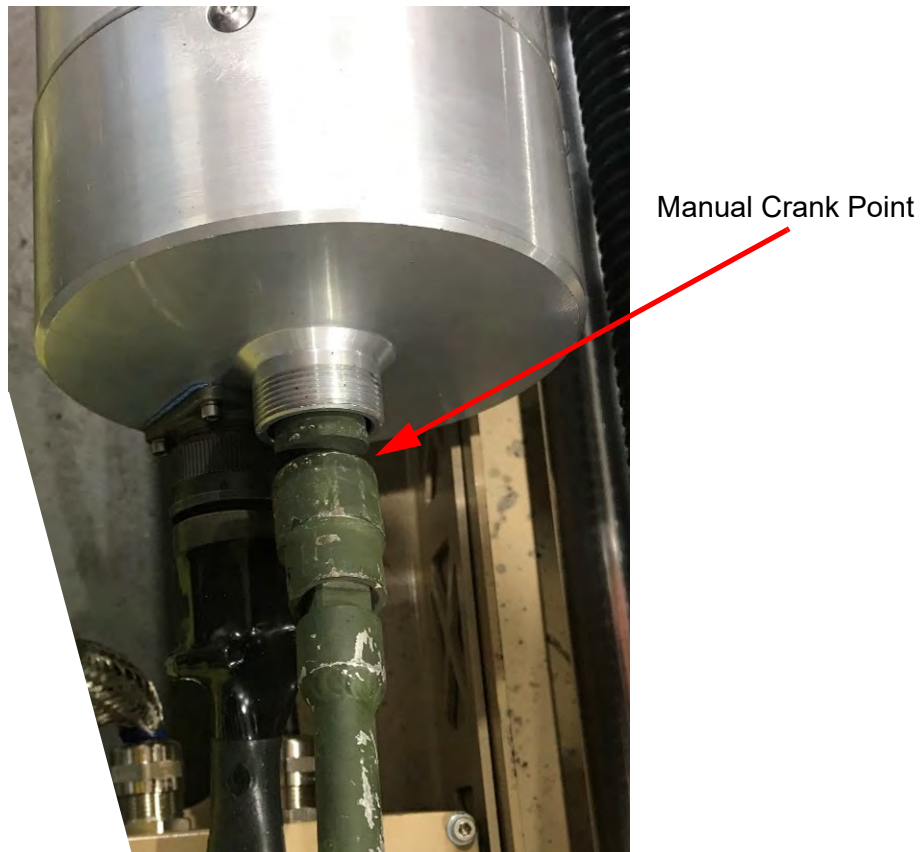

Figure 6-26 Manual Crank Point
9. Insert the Long Crank Handle Assembly in the manual crank point (Figure 6-26).